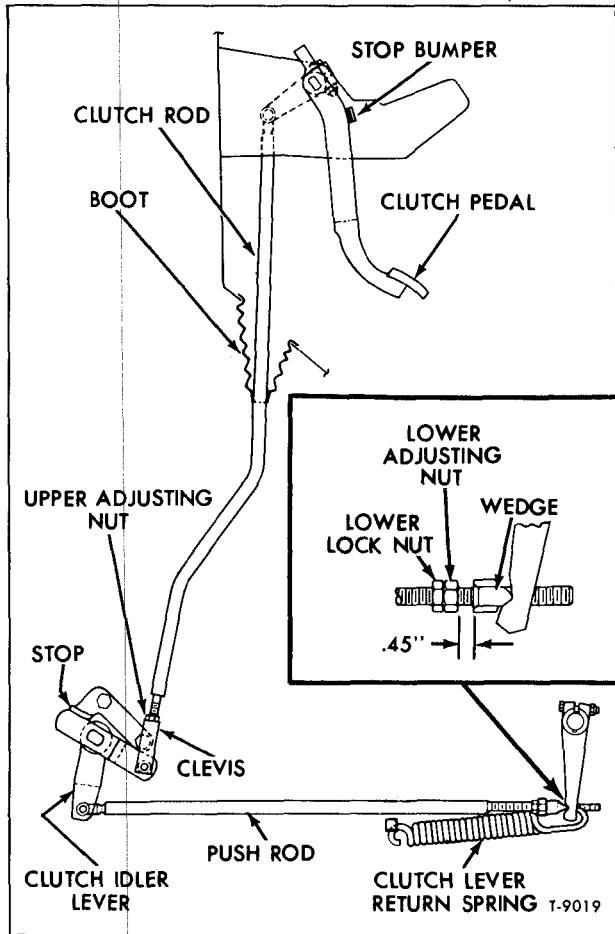

Figure 3—Clutch Controls (JB90)
### JB90 CLUTCH LINKAGE ADJUSTMENT (Refer to Fig. 3)
3. Loosen lower lock nut. Referring to Inset, figure 3, adjust position of lower adjusting nut to provide .45-inch clearance between wedge and adjusting nut, with the release lever held rearward until the release yoke just contacts the release bearing.